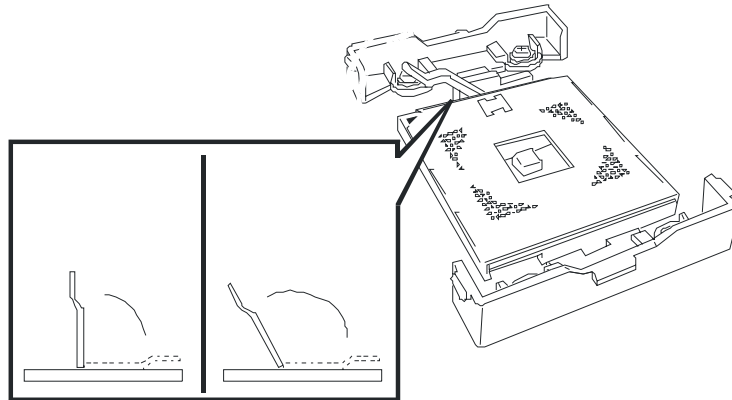

Figure 4-10. Raising the Socket Lever
6. Raise the lever on the socket to its up position. See Figure 4-10.